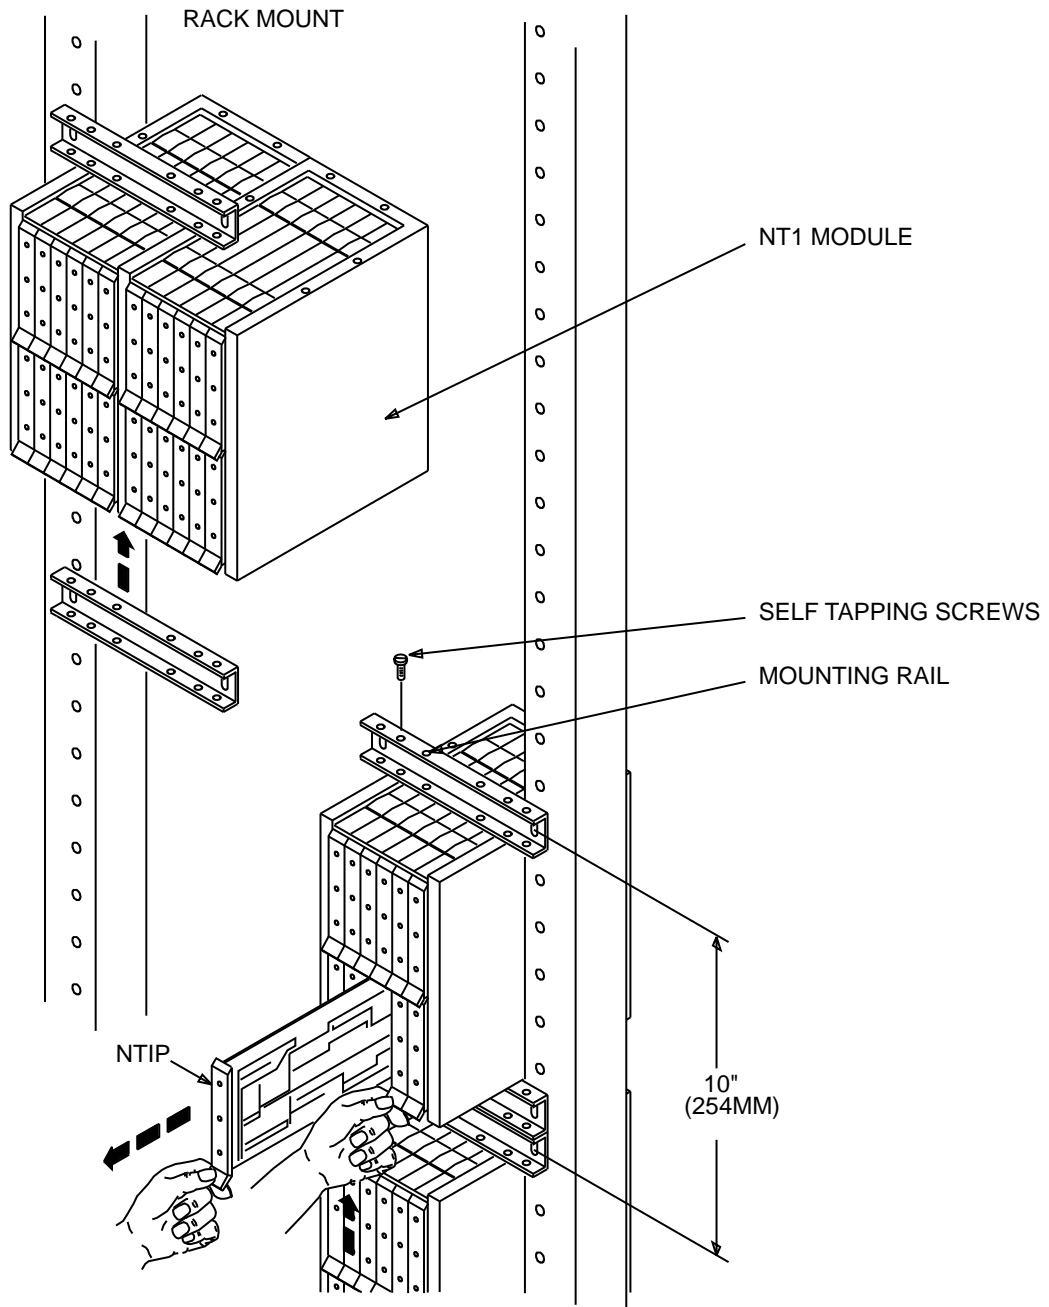

FIGURE 3-17. NT1M Multiple Mounting-Rack-Mount
The NT1 multiple mount module (NT1M) can be rack-mounted (Figures 3-17 and 3-18) in the customer's equipment room or wall-mounted (Figure 3-19) in the wiring closet.
4. Refer to Figures 3-17, 3-18, and 3-19 for mounting the module frame.